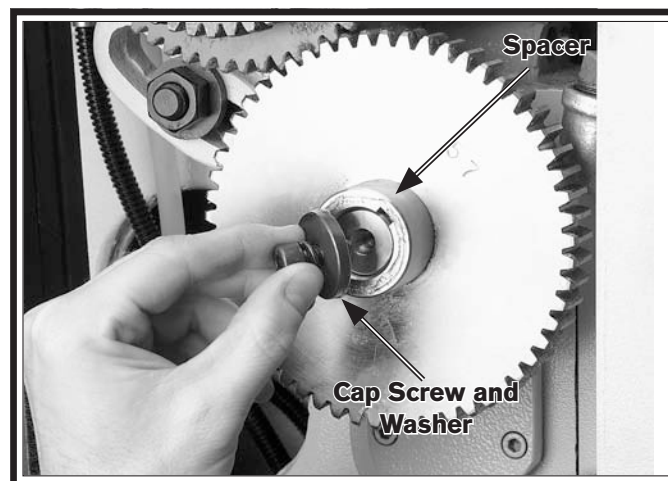

Figure 88. Removing the end gear.
- a. Remove the cap screw and flat washer that secures the gear, then remove the gear (see **Figure 88**).